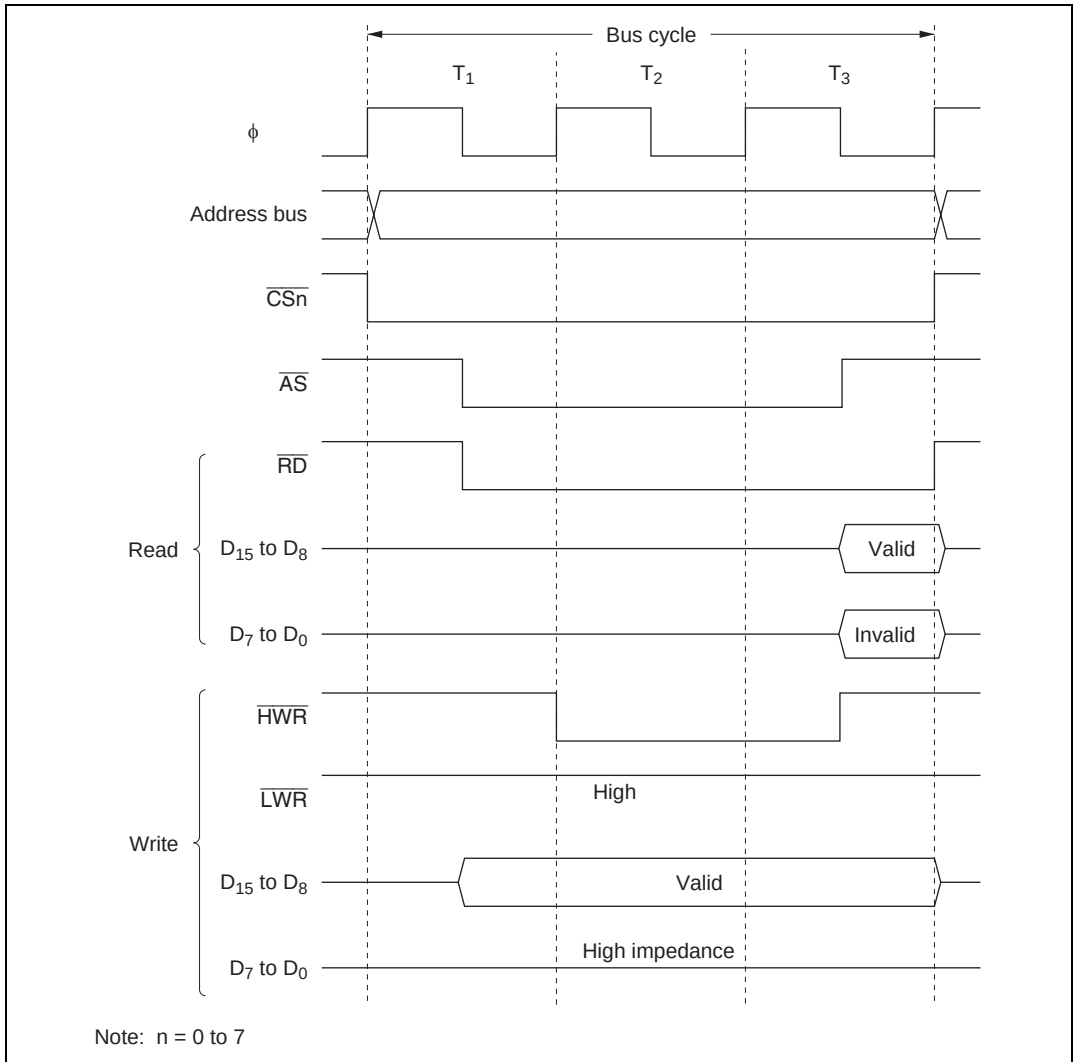

**Figure 6.11 Bus Timing for 16-Bit 3-State Access Space (1) (Even Address Byte Access)**
**16-Bit 3-State Access Space:** Figures 6.11 to 6.13 show bus timings for a 16-bit 3-state access space. When a 16-bit access space is accessed, the upper half ( $D_{15}$  to  $D_8$ ) of the data bus is used for the even address, and the lower half ( $D_7$  to  $D_0$ ) for the odd address.